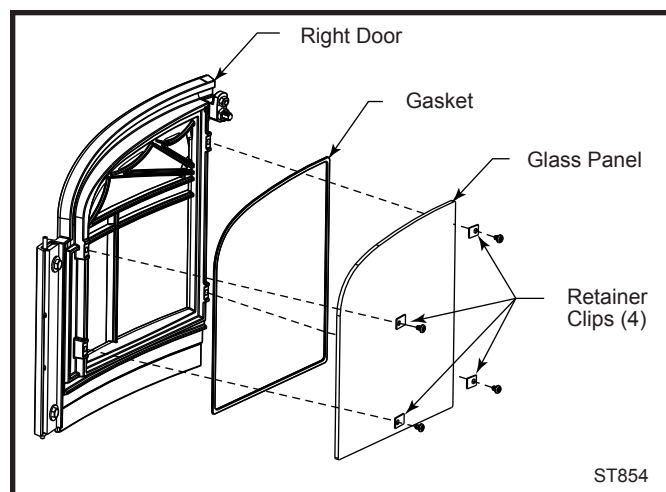

Fig. 31 Exploded view of the glass assembly for the right door.
2. Secure the glass on both doors with the retainer clips. Tighten all screws. (Fig. 31)